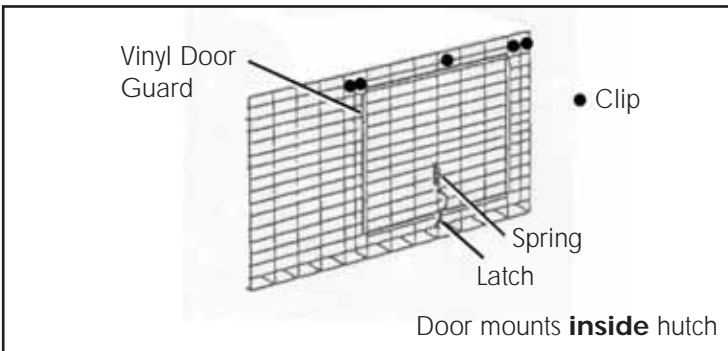

Figure 6
4. Attach the door on the **inside** of the hutch using clips at each ● shown in Figure 6.
5. Attach the spring and door latch as shown in Figure 6.